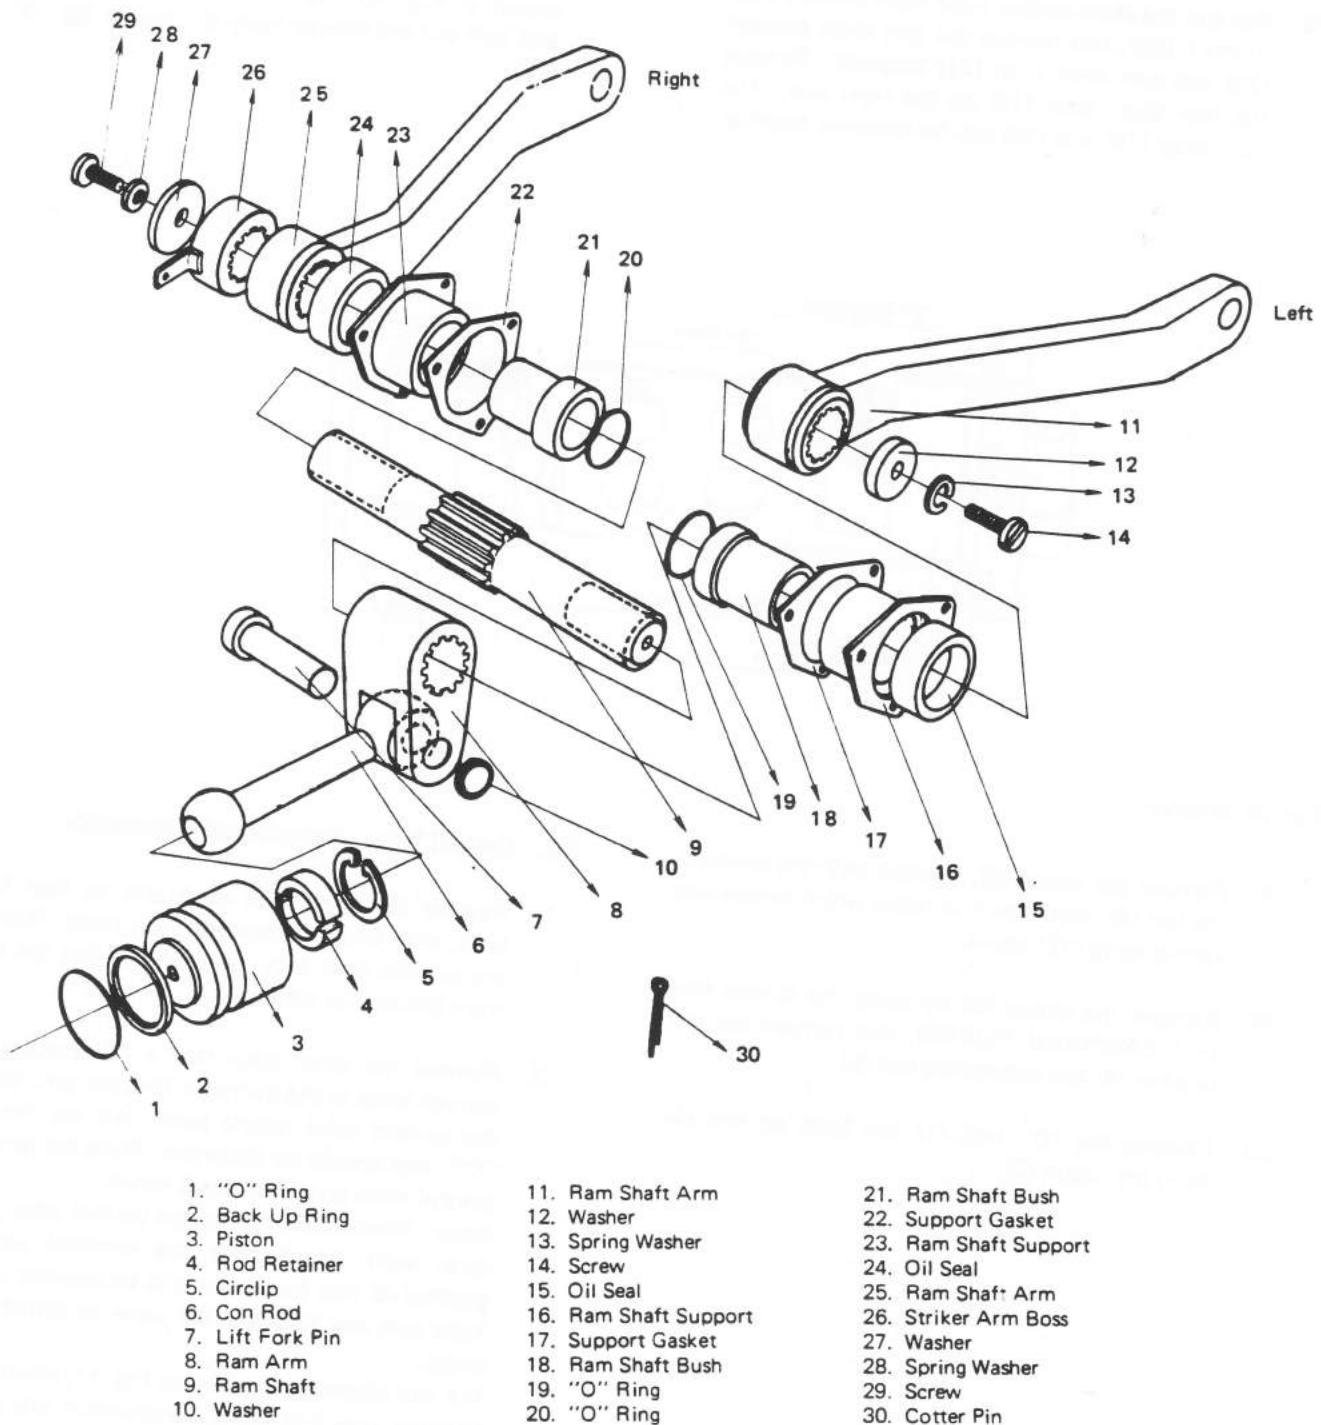

Fig. 9 Hydraulic Lift
12. Remove the six screws (M10 x 40) holding the lock valve, and remove the lock valve. Follow the procedures listed below by making reference to Fig. 9.